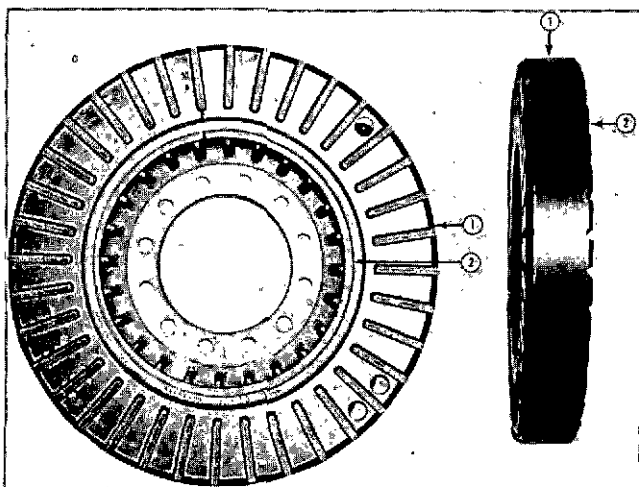

Fig. 14-1-76, V414199. Vibration damper eccentricity and wobble check points
3. With a dial gauge mounted to gear case cover and arm resting on the inner machined surface of outer member, check vibration damper eccentricity and wobble at points (1) and (2) as shown in Fig. 14-1-76. Run-out must not exceed values shown in Table 14-1-4.
4. When an accessory drive pulley is mounted in front of vibration damper, pulley must also be checked at points (1) and (2) as shown in Fig. 14-1-76. Readings taken with a dial gauge mounted to gear case cover must not exceed values shown in Table 14-1-4.